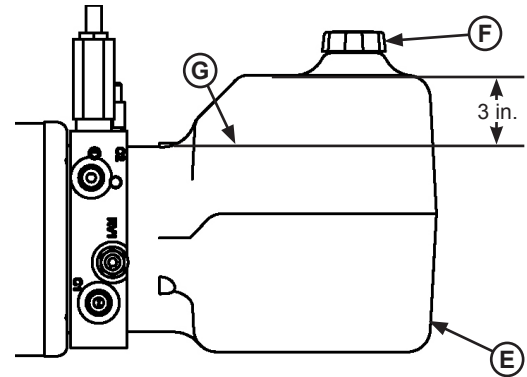

Figure 18
- Check reservoir fluid level (G, see Figure 18):
3. Remove breather cap (F).
4. Measure fluid level. The fluid level should be approximately 3 in. (76.5 mm) from top of reservoir (E) with platform at the below-dock position.